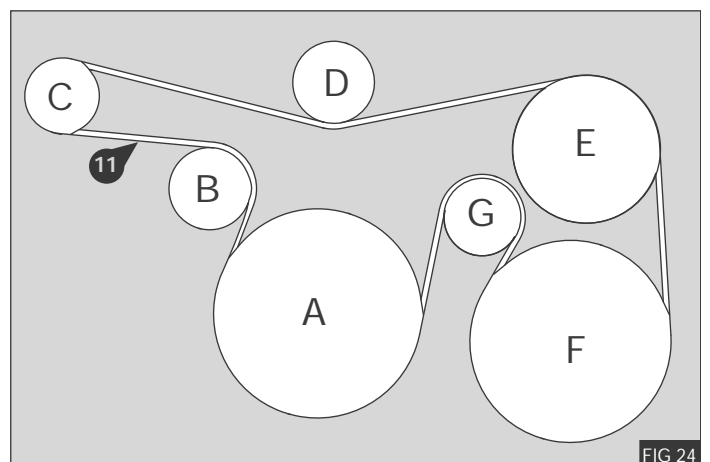

FIG 24
Fit the belt provided (11) as shown in the diagram - Fig 24